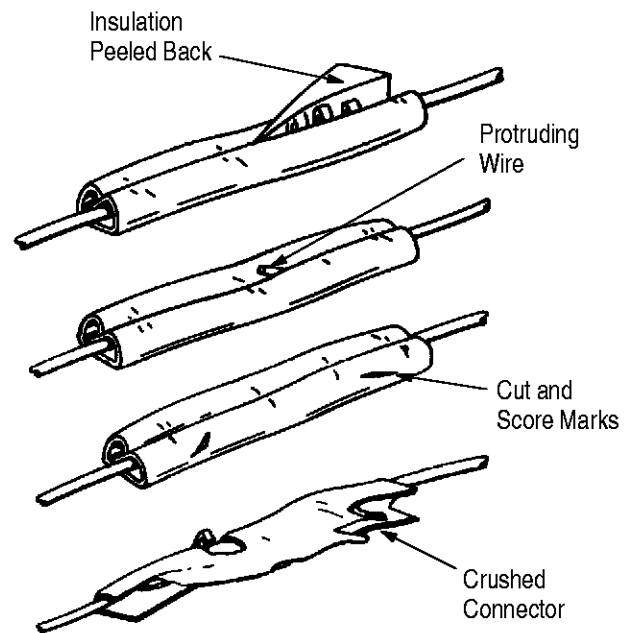

Figure 6
8.2. Visual Inspection (Figure 6)
3. Check to see if the corner of the insulation has been peeled back as shown in Figure 6. If you find this condition, replace the connector. This condition can be caused by too much slack between wire supports and cable, or, it can be the result of the tool moving during the crimp cycle.